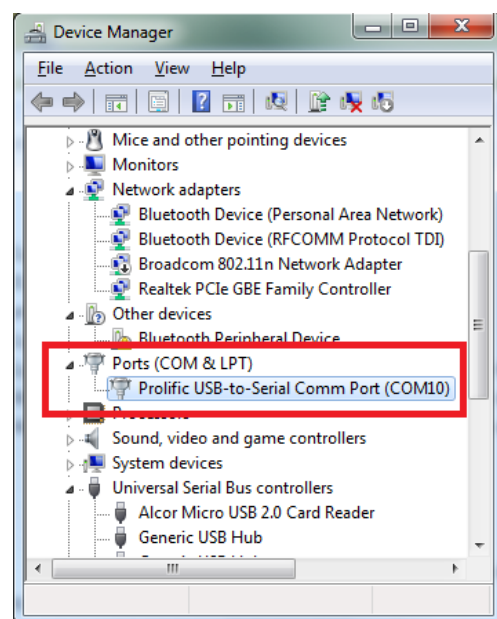

Figure 67
5. Select the appropriate COM port for upgrading; (if you do not know which COM port on your PC is being used, right click “My computer”->“Properties”->“Device manager”->“port”(COM & LPT) to check, as shown in Figure 67)